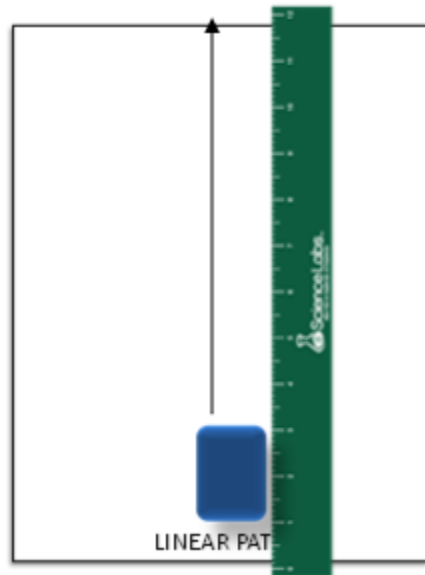

Figure 5: Setup for analyzing the linear path. The blue rectangle represents the car and the arrow indicates the direction to roll the car.
4. Place the toy car just above the label on the construction paper facing away from you. Keeping your hand on the car, roll it in a linear path alongside the ruler until the front tires reach the end of the paper (Figure 5). Leave the car where it rests when you stop rolling it.